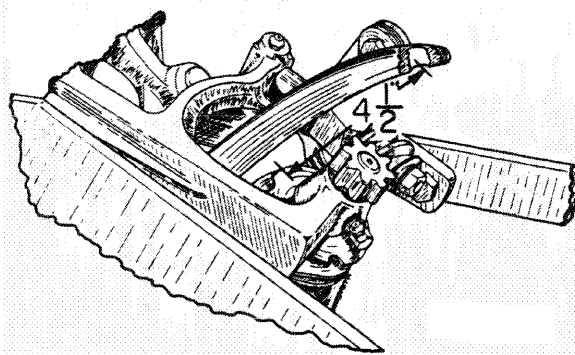

Fig.19
3. Trip the knotter and turn the flywheel clockwise by hand, until the needles are in the uppermost position. The distance from the bottom of the needle eye to the twine disc should be 4-1/2" (114 mm), Fig. 19.